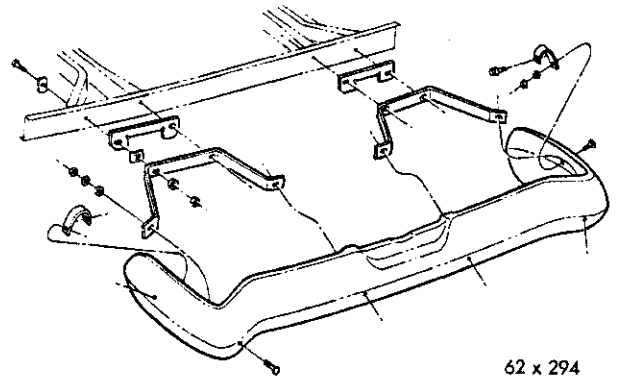

Fig. 95—Disassembled Rear Bumper Assembly
- (1) Position the bumper extensions on the bumper and install the mounting bolts securely.
- (2) Position the bumper against the frame reinforcements and install the mounting bolts loosely.
- (3) Install the frame bracket to the bumper support bracket bolts loosely.
- (4) Align the bumper from side to side, and for correct spacing with the front fenders and tighten all mounting bolts securely.
**BUMPER—REAR (Fig. 95)